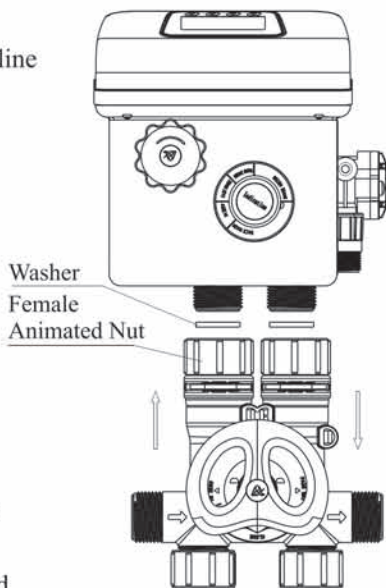

Figure 1-1
- ① Put the washers into the female animated nuts, and tighten with inlet and outlet of F63 control valve (as the Figure 1-1 shows).
- ② Connect the bypass with water inlet and outlet.